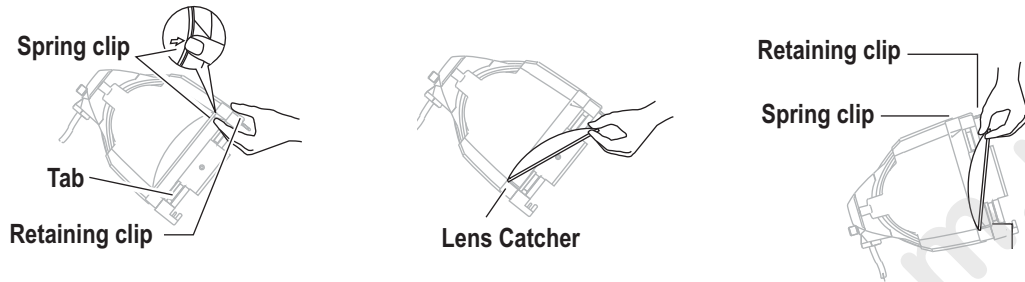

Figure 6
- Step 12: Hold the lens by the edge and position it so the wave side faces the rear of the fixture. See Figure 6.